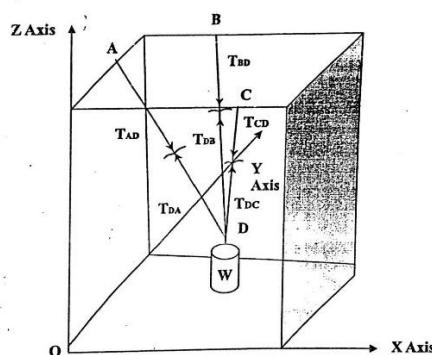

Fig. 1: Concurrent space force system
Procedure:- (Ref. Fig. 1):
1. Attach three strings AD, BD and CD with spring balances to the different points on the space force apparatus as shown in fig. 1. Ensure that the strings are just tight and that the spring balance reading is zero.